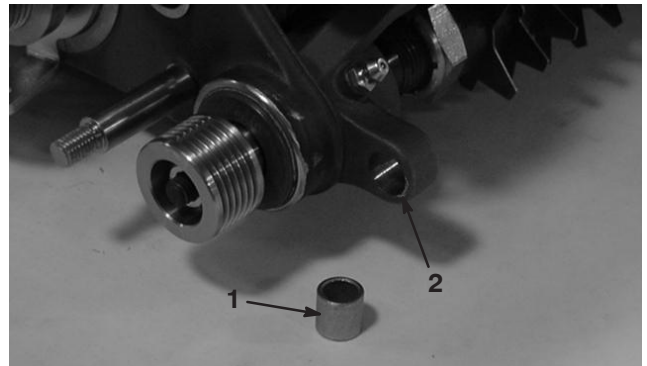

Figure 10
18. Insert a bushing into the hole in the groomer drive assembly (Fig. 10).